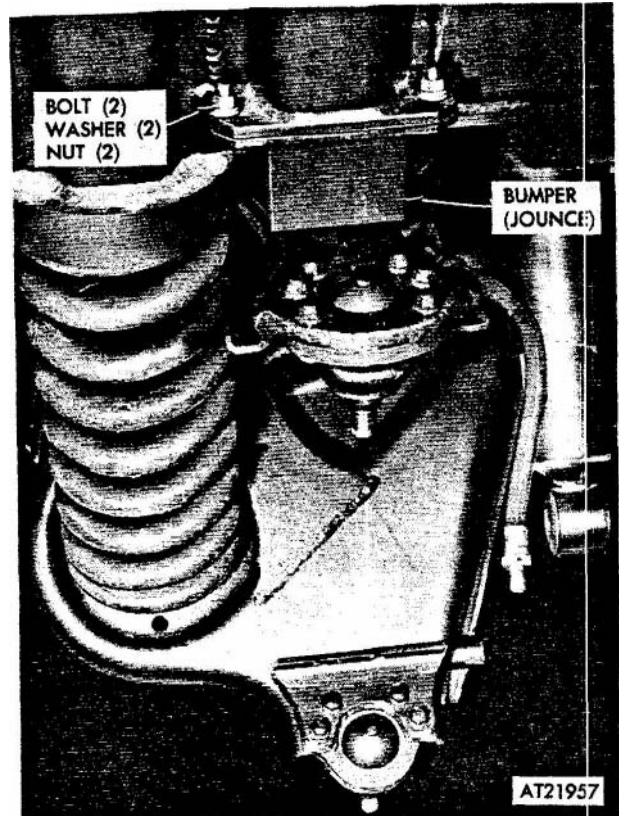

Figure 2-305. Front and rear suspension bumper assembly, removal and installation.
a. Removal. Remove bumper assembly by removing two bolts, washers, lock washers, and nuts (fig 2-305).
b. Installation. Position bumper assembly to support plate and secure with two bolts, washers, lock washers, and nuts. Torque nuts to 9-12 lbs-ft. (:fig 2-305).